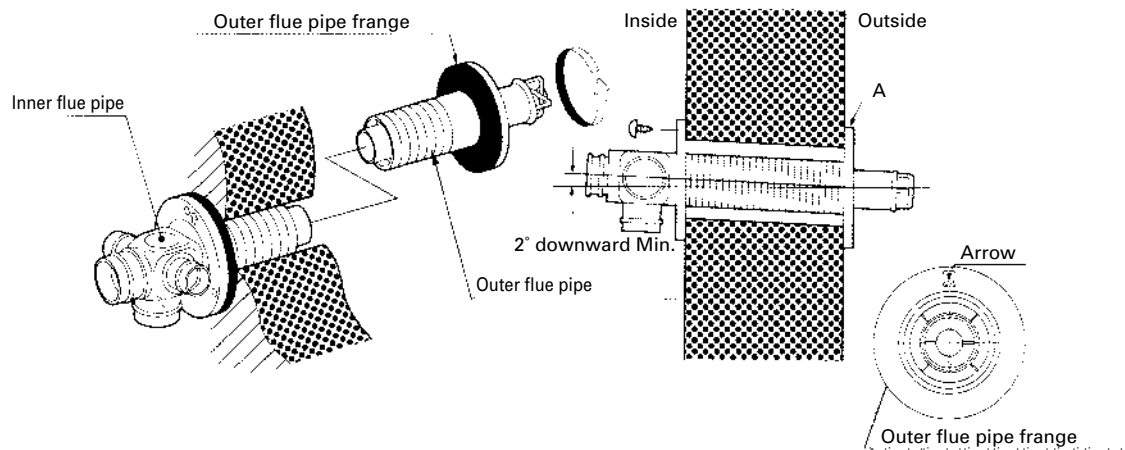

Fig. 9
- c. From outside, insert the outer flue pipe through the hole. Secure the outer flue pipe to the wall by turning it clockwise. This locks the two halves together (See Fig. 9).
Make sure to secure the outer flue pipe well. (A-part shown in Fig. 9)